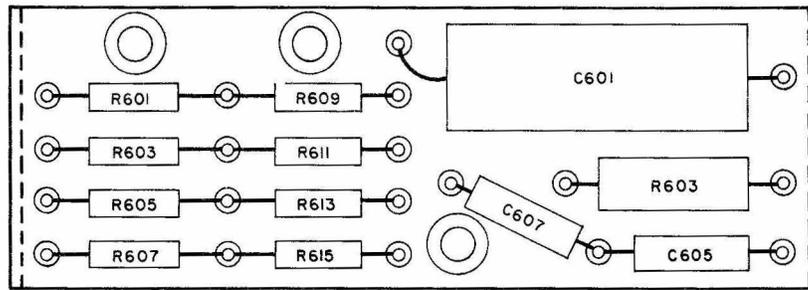

Figure 5-16. Channel B Network Assembly, Location of Front Components
(8) Channel B NETWORK assembly, figures 5-16 and 5-17.